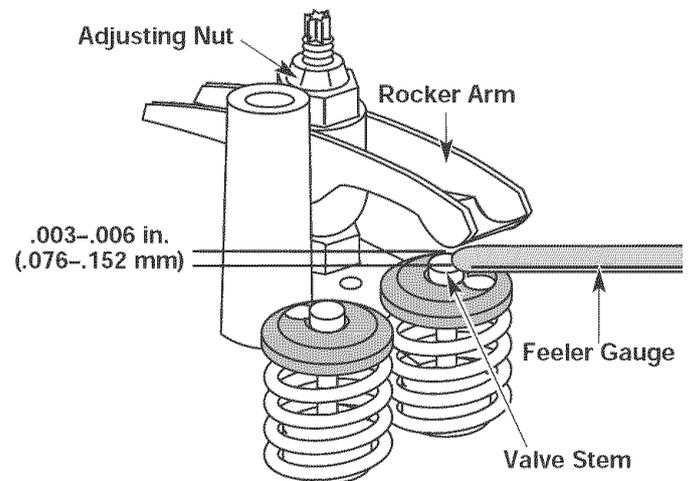

Fig. 27
8. Slide the feeler gauge between the rocker arm and the valve return spring. Measure the clearance between the valve stem and rocker arm (Fig. 27). Measure both the intake and exhaust valves.
- a. Turn the adjusting nut using a 5/16 inch (8 mm) wrench or nut driver (Fig. 27).